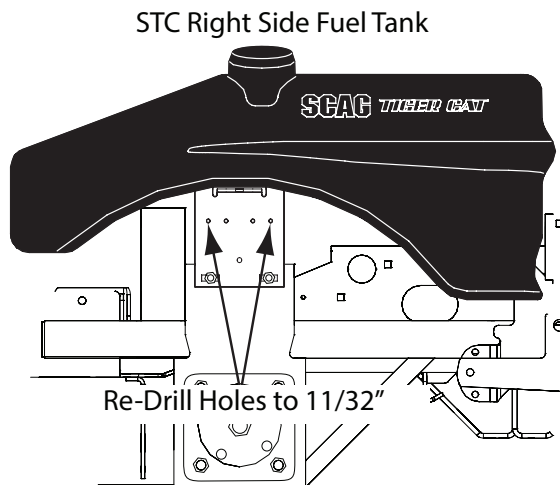

Figure 3-13. STC Handle Bracket Mounting Holes
1. For **STC-OCDC**, use a 11/32" (.343) drill bit to enlarge the holes on the right rear fuel tank mounting bracket. See Figure 3-13.